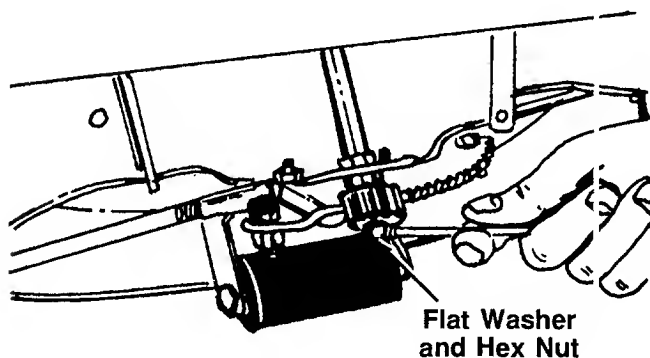

FIGURE 7.
11. Now tighten the hex nut which secures the pinion gear. See figure 7.